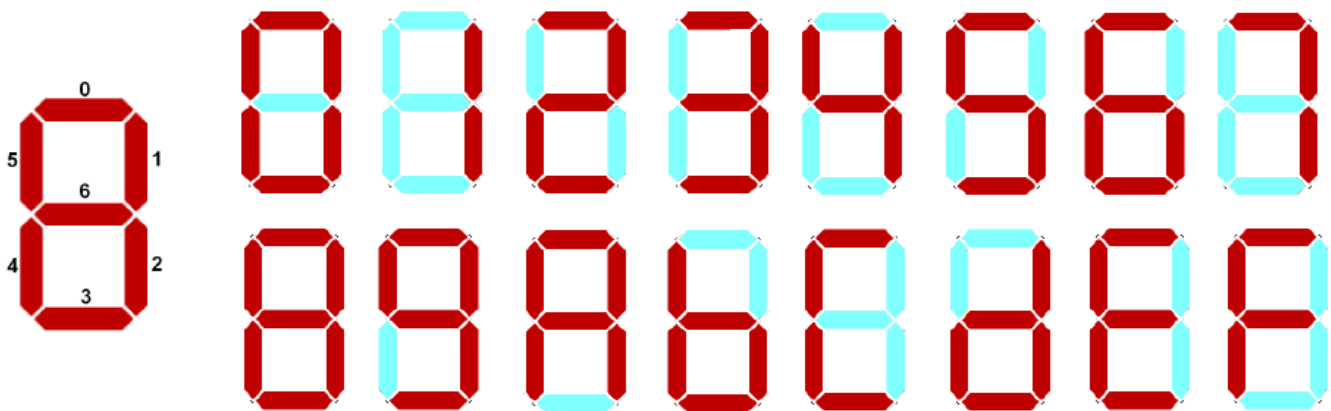

Figure 1: Seven-segment Display
Seven-segment displays remain some of the most ubiquitous display devices. In their basic form, they are used to display decimal numbers. Each display consists of seven segments (hence the name). Each segment is an LED that can be turned on or off to display various patterns. Each segment is controlled independently, although they work together to display a pattern. Segments are numbered from *a* to *g* or from 0 to 6 as shown in Figure 1. The figure also shows how the 16 hexadecimal digits can be represented using a seven-segment display. **Please note that to make a segment on the DE1-SoC board light up, logic 0 has to be applied to its input.** For example, to display the number 1 on a seven-segment display, one should apply logic 0 to segments 1 and 2, and logic 1 to all other segments.
- For the first 10 binary combinations of the input (0000 to 1001), the decoder should provide signals to display decimal digits 0 to 9 on the seven-segment display, as shown in Figure 1.